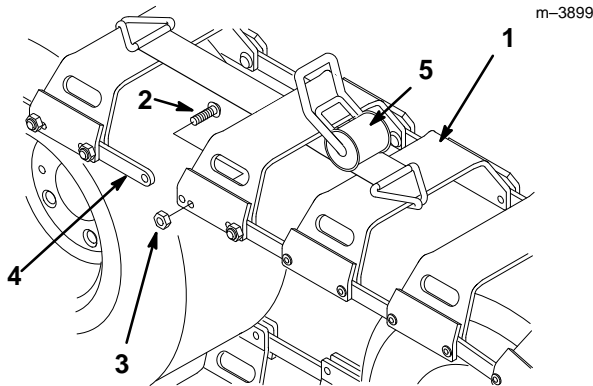

Figure 4
3. Pull the front and rear of the track up and over the tires and secure them with a ratchet and straps (Fig. 4).
4. Connect the track by installing (2) bolts and (2) locknuts through the connector links on both sides of the track (Fig. 4).